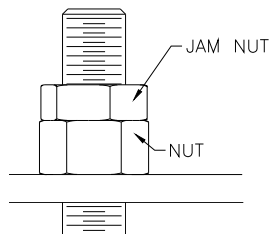

Fig 11 – Cable Jam Nut
- 22) Secure the cables to the top of the column with the nut and jam nut provided, **Fig 11**.